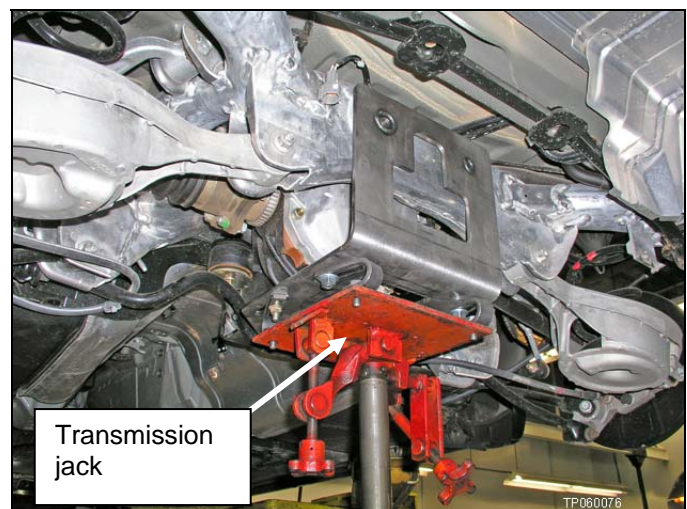

Figure 25
25. Use bolts to attach a transmission jack to the adapter tool (see Figure 25).